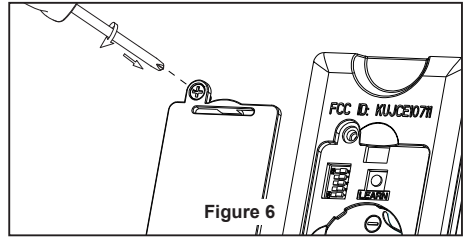

Figure 6
- 6.** Assemble the LED assembly to the light kit using the two key slots. Replace the removed screw from Step 3 and secure all three screws. (Figure 6)
6. Replace battery cover on the remote control and secure with the previously removed screw. (Figure 6)